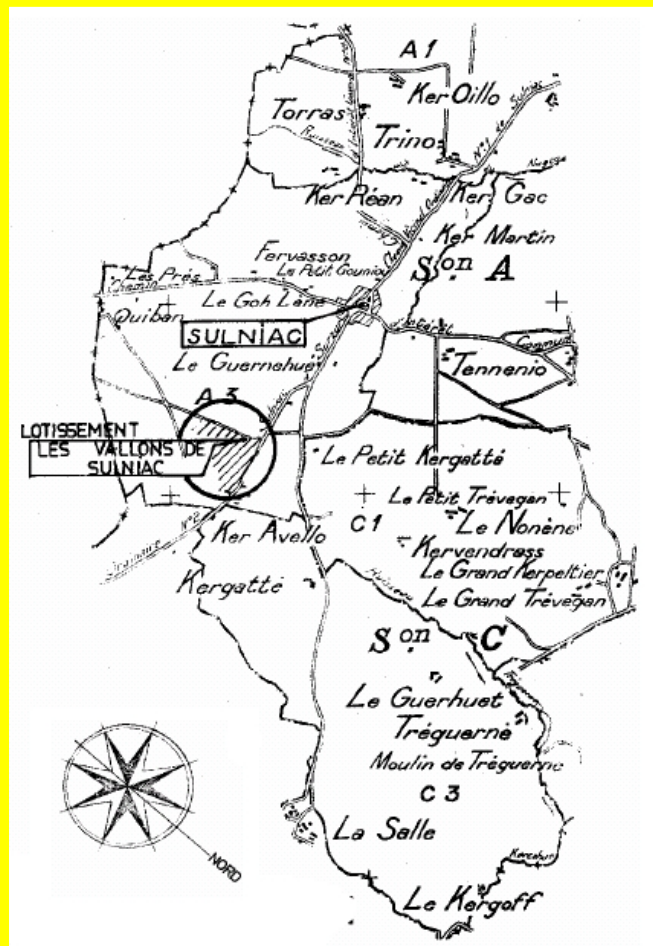

Figure 1: Plan de situation.
2.2.2 Plan de situation (Figure 1)